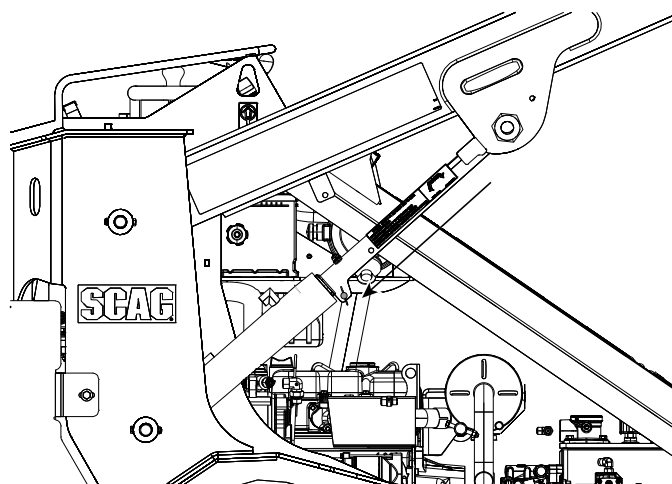

Figure 6-5. Securing Cylinder Safety Lock
6. Lower lift arms until lift arm safety support is held securely between lift arm and cylinder. See Figure 6-5.